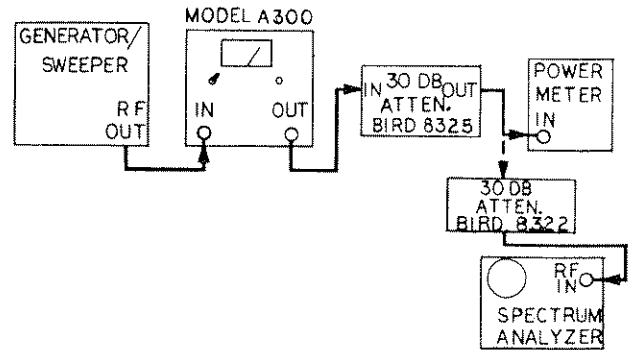

Figure 5-3. RF Output Distortion Test Set-Up
- a. Set-up the test equipment as shown in figure 5-3.